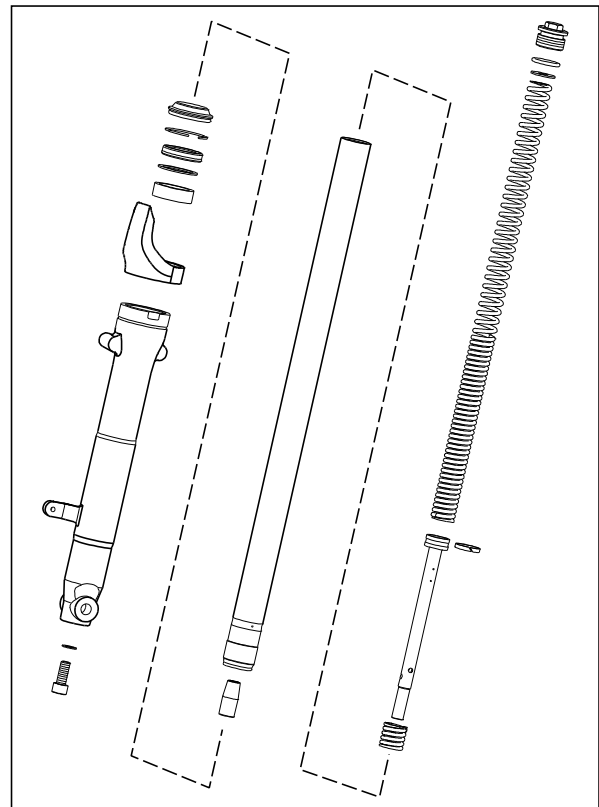

Fig. 6.64
- Refer leg assembly front fork exploded view (Fig. 6.64) for assembly details.